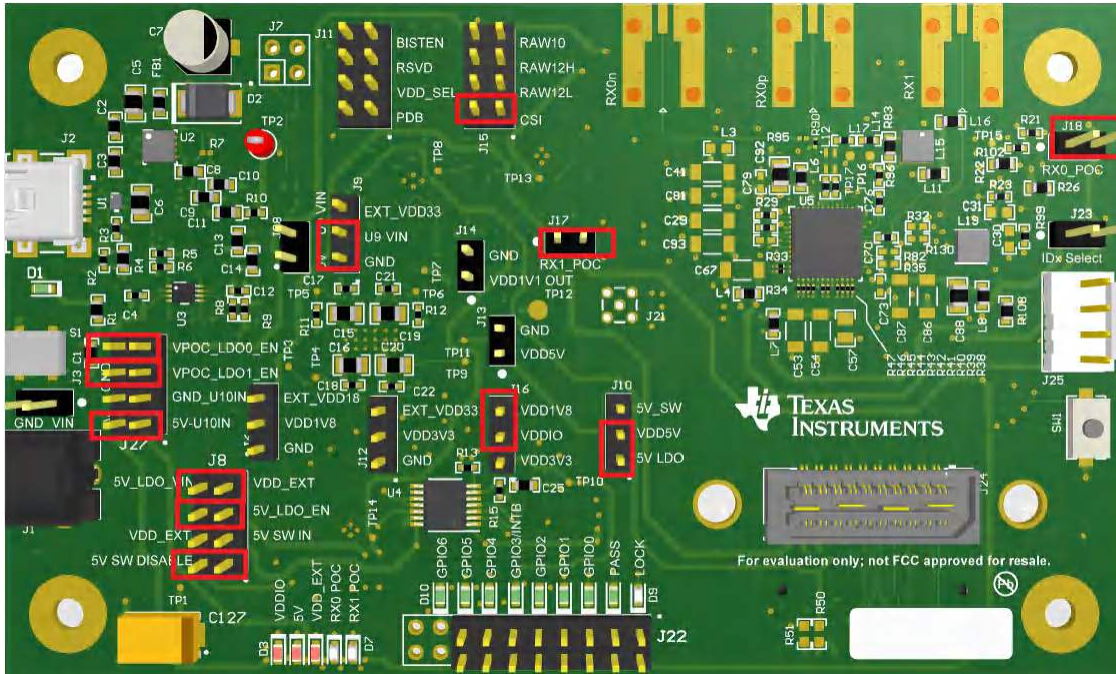

Figure 3-32. DS90UB954-Q1EVM (or variant) With Highlighted Jumpers
- On the DS90UB954EVM (or variant), ensure that all jumpers are correctly covering the headers highlighted in Figure 3-32.